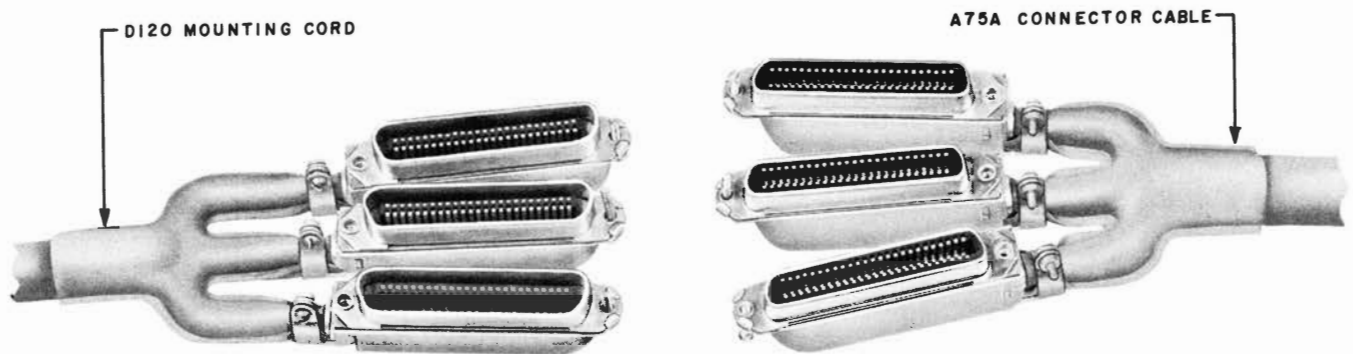

Fig. 12 — Mounting Cord and Connector Cable
3.11 Connector cables A75A or A100A are used between the set mounting cord and key system apparatus cabinet or distribution terminal. Cord plug and running cable receptacle (Fig. 12 and 13) can be housed in a Wiremold 2857T terminal box (see section entitled Overfloor Ducts, Identification and Installation).